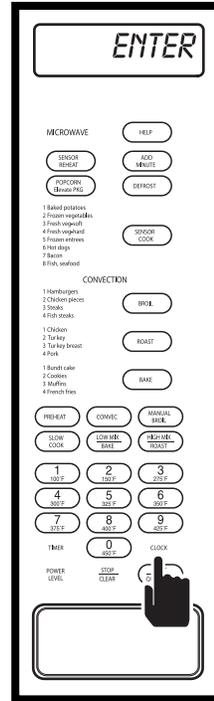

Figure 3-65.
1. Press CLOCK key, “ENTER - TIME” will flash on the digital display (See Figure 3-65).